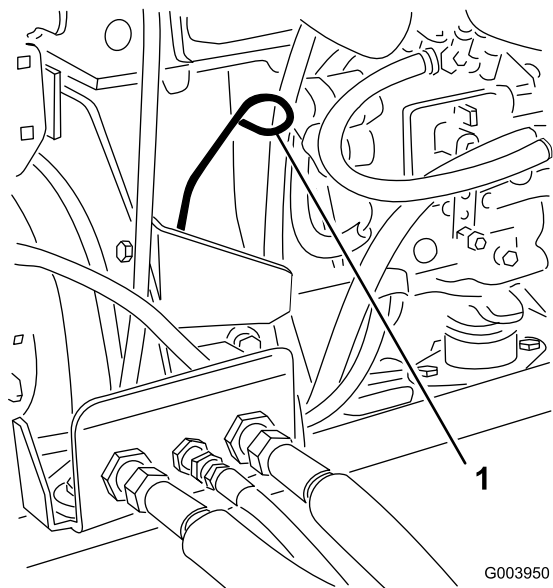

Figure 27
3. Remove the dipstick, wipe it clean, and install it (Figure 27).